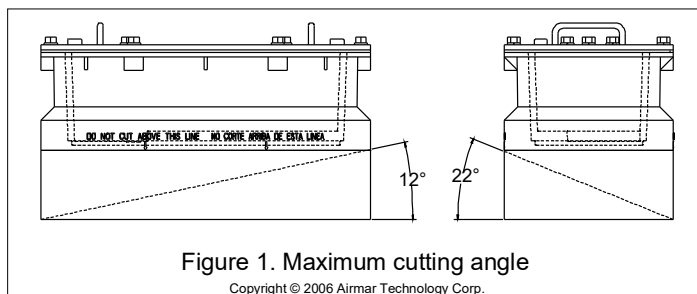

Figure 1. Maximum cutting angle
- Accommodates a deadrise angle up to: (Figure 1)